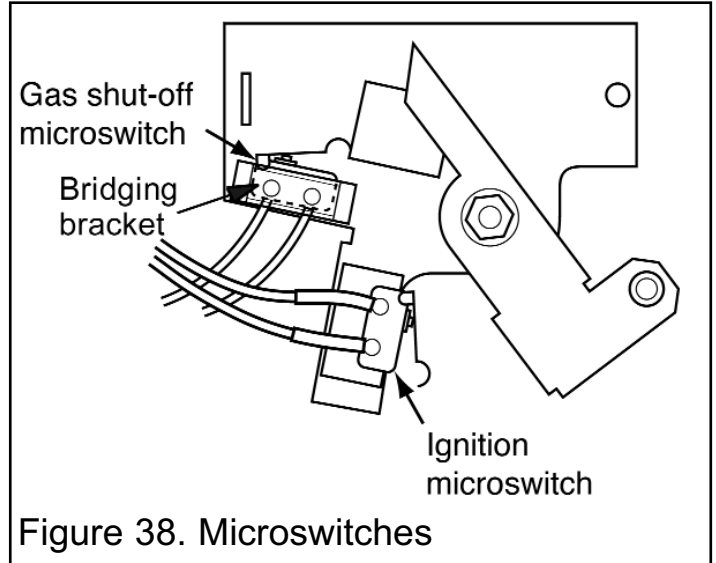

Figure 38. Microswitches
See figure 38.
2. Disconnect the leads from the ignition microswitch (The lower of the two microswitches - See figure 38).
(See figures 38 & 39).
4. Detach the bridging bracket, microswitch assembly by removing two screws (See figure 38).